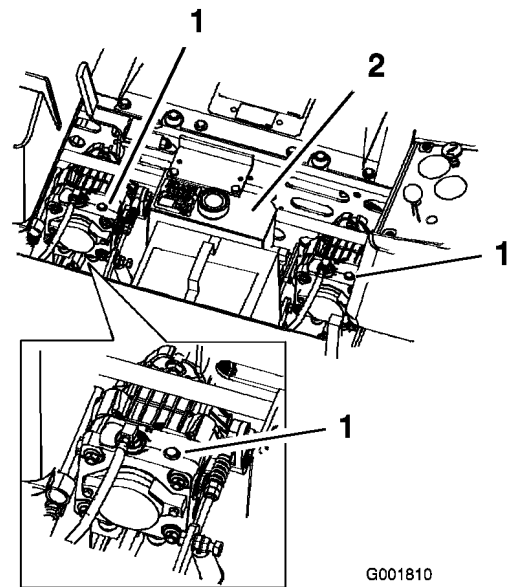

Figure 30
2. Rotate the by-pass valves counterclockwise 1 turn to push. This allows hydraulic fluid to by-pass the pump enabling the wheels to turn (Figure 30).
Rotate the by-pass valves clockwise 1 turn to operate machine (Figure 30).